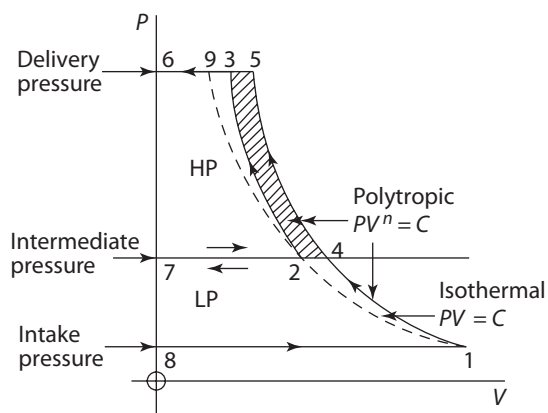

Fig. 10.8 Two-stage compressor: cycle diagram
Fig. 10.8 illustrates cycle arrangements in the development of the ideal conditions required for multi-stage compression. For simplicity, clearance is neglected. The effect of clearance has been discussed in section 10.3.2. Referring to Fig. 10.8, the overall pressure range is  $P_1$  to  $P_3$ . Cycle 8156 is that of the single-stage compressor. Cycles 8147 and 7456 are those of a two-stage compressor without intercooling between cylinders.
Cycles 8147 and 7236 are those of a two-stage compressor with perfect intercooling between cylinders. Perfect intercooling means that, after the initial compression in the low-pressure (LP) cylinder, with its consequent temperature rise, the air is cooled in an intercooler back to its original temperature. Referring to Fig. 10.8, this means that  $T_2 = T_1$ , in which case point 2 lies on the isotherm through 1. This shows that multi-stage compression, with perfect intercooling, approaches more closely the ideal isothermal compression than does single-stage compression.
Consider Fig. 10.8: cycle 8156 is that of a single-stage compressor, neglecting clearance. For this cycle
Now Fig. 10.8 shows the shaded area 2453, the work saving which occurs as the result of using an intercooler. As intermediate pressure  $P_2 \rightarrow P_1$ , area 2453  $\rightarrow 0$ . And as  $P_2 \rightarrow P_3$ , area 2453  $\rightarrow 0$ . This means there exists an intermediate pressure  $P_2$  which makes area 2453 a maximum; this is the condition when  $\oint W$  is a minimum.